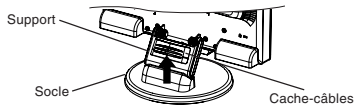

Figure A.4
- Retirez le cache-câbles (Figure A.4).